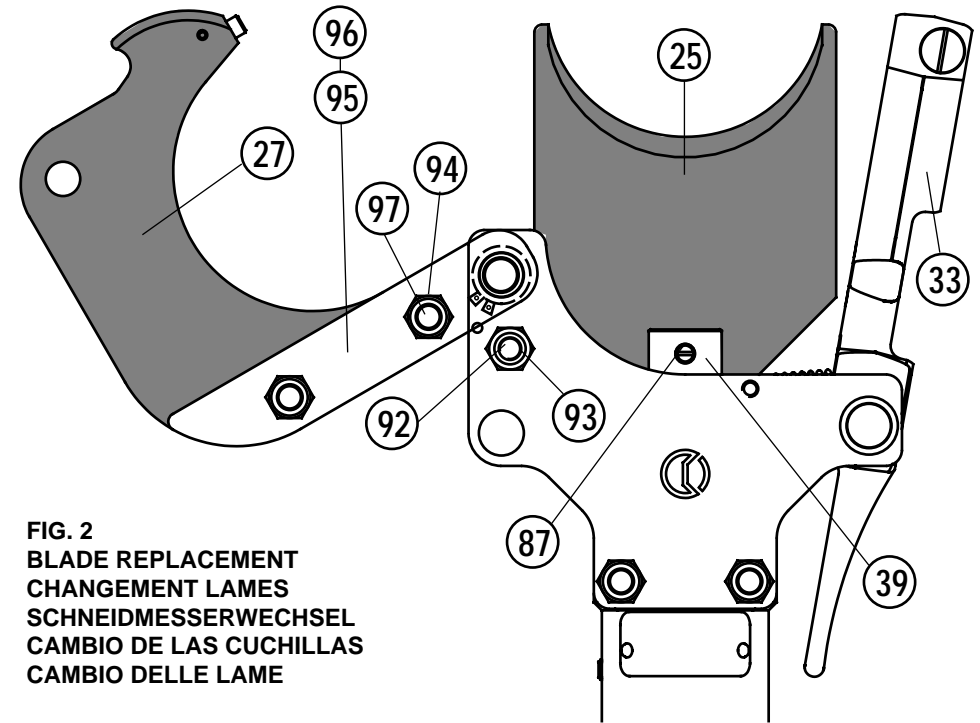

FIG. 2
3.6) Blade replacement (Ref. to Fig. 2)